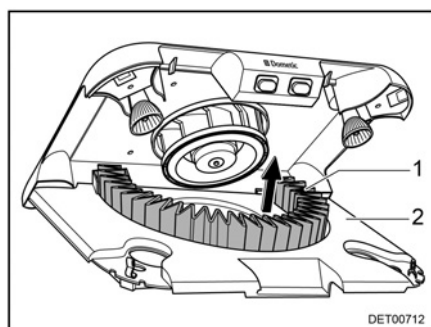

Fig. 121 Changing the active carbon filter
- Remove the active carbon filter (Fig. 121,1) of the holder in upward direction.
- Swivel the filter holder (Fig. 121,2) upwards until it engages.